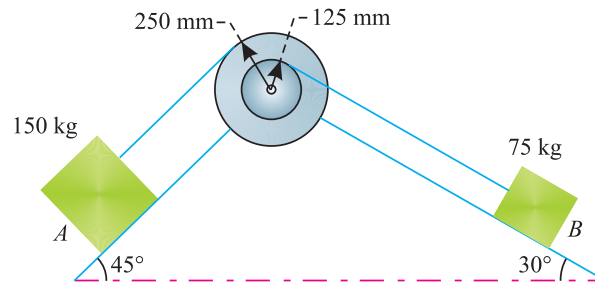

Fig. 31.13.
**Example 31.14.** Two bodies A and B, of mass 150 kg and 75 kg respectively are supported by a string of negligible mass and pass over a composite pulley. The bodies rest on two smooth inclined planes as shown in Fig. 31.13.